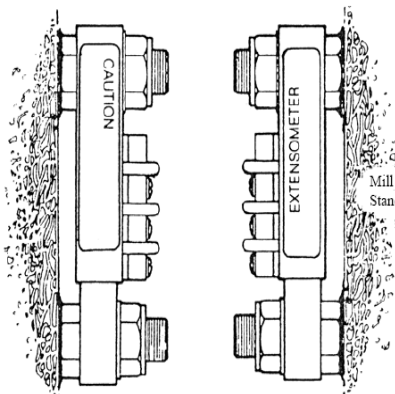

Fig 3.9 Extensometer installed on Mounting Bolts
- Position the extensometer on the bolts as shown in fig 3-9. the terminal block should be at the top.
- c) Position the extensometer on the bolts as shown in fig. 3-9. The terminal block should be on the top.